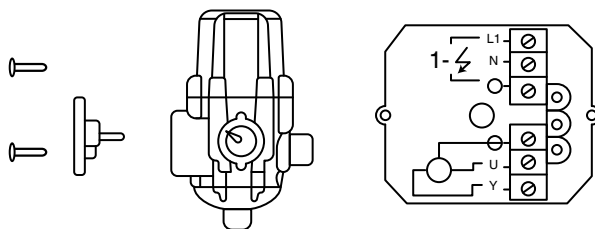

Fig.3
## ELECTRIC CONNECTION (FIG.3)
- d) Incorrect electric connection on electronic boards check the connections according to Fig.3.